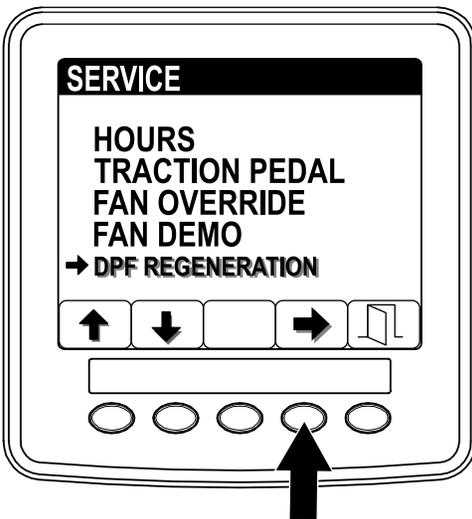

Figure 4
1. Access the Service menu, and press buttons 1 or 2 to scroll to the DPF REGENERATION option (Figure 4).
2. Press the button 4 to select the DPF Regeneration entry (Figure 4).